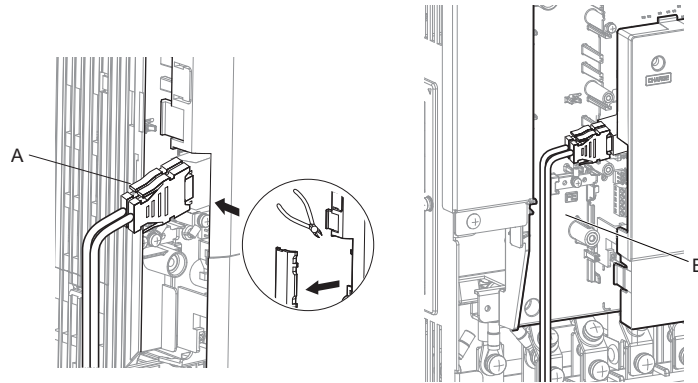

Figure 10 Wire Routing Examples
5. Route the option wiring inside the enclosure as shown in Figure 10-B. Take proper precautions so that the front covers will easily fit back onto the drive. Users may also choose to route the option wiring through openings on the front cover of some models. Remove the perforated tabs on the left side of the front cover as shown in Figure 10-A to create the necessary openings on these models. Refer to the Peripheral Devices & Options section of the drive instruction manual for more information.